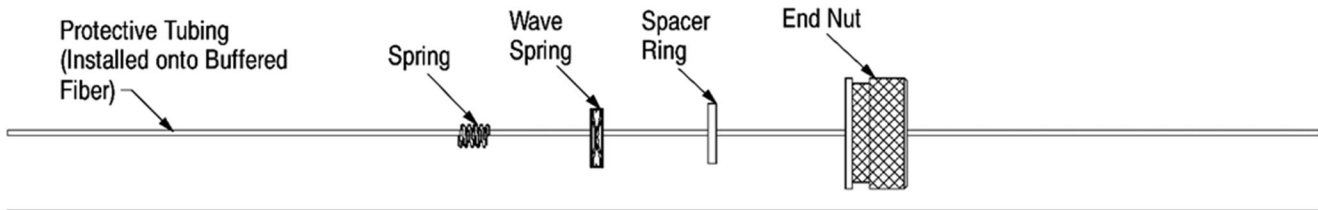

Figure 2
f. Slide the components shown in Figure 2 over the buffered fiber and onto the protective tubing. Make sure to orient each component as shown.
b. Slide the components shown in Figure 2 onto the protective tubing, allowing 23±1 mm at the end of the tubing for stripping. Make sure to orient each component as shown.